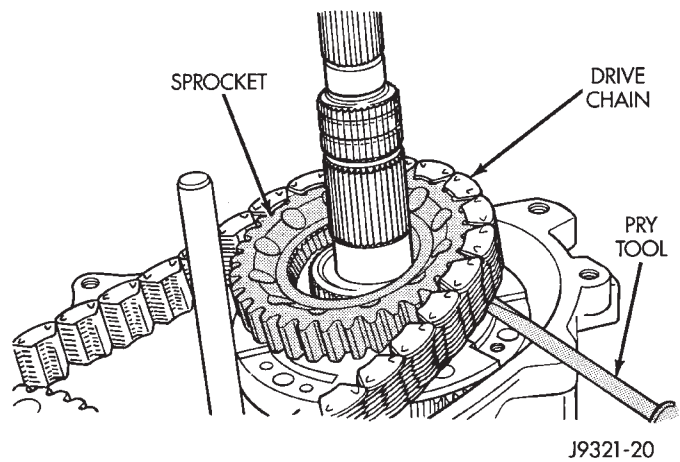

Fig. 20 Disengaging Mainshaft Drive Gear
(20) Disengage drive gear (Fig. 20). Pry gear upward and off mainshaft as shown.